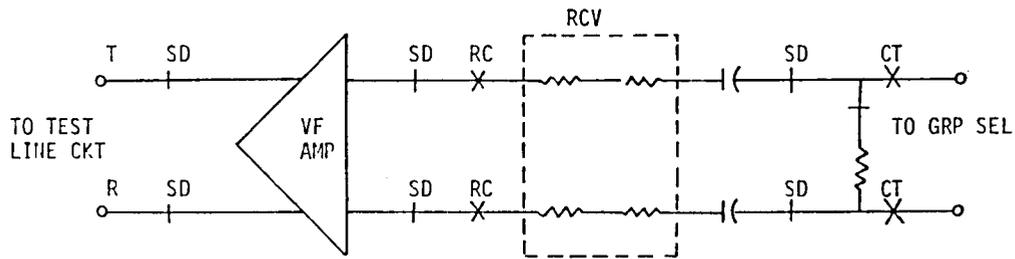

FIG. 2 LINE CONTROL CKT TRANSMISSION RECEIVING - CT AND RC RELAYS OPERATED
7.352 If loop pulsing with Figure 2 of SD-98132-01 is provided connect the tip and ring of ITE-4011 STO jack to the A jack of the incoming loop signaling circuit associated with the selector used for test. Connect (BG-LP) T and R jacks to incoming selector jack terminals 16 and 20.
7.353 If loop pulsing without Figure 2 of SD-98132-01 is provided connect ITE-4011 STO jack tip and ring leads to terminals 1 and 2 of the incoming selector jack. Connect ITE-4011 (BG-LP) T and R jacks to terminals 16 and 20 of the Incoming Selector jack.